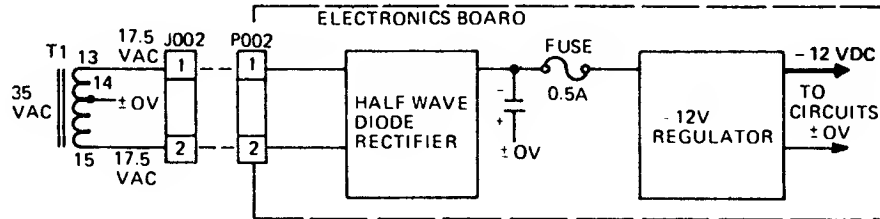

Figure 2-8. -12 VDC POWER SUPPLY
2.8.2 -12VDC REGULATOR (Figure 2-8)